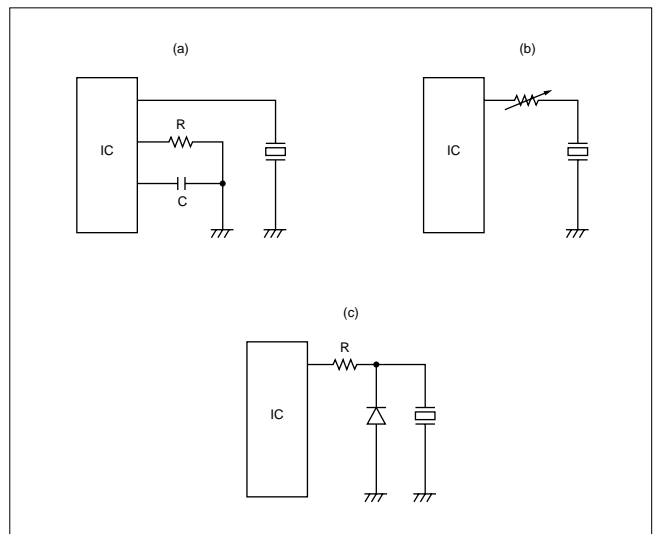

Fig. 8 Circuits for piezo ringer
- iii) If tone is distorted as discribed in Fig. 8 (a), place a resister in series to vary resistance as described in (b) and select a resistance with which the distortion can be eliminated. The recommended resistance is in a range between 1kohms to 2kohms. Alternatively, it is recommended to place a diode in parallel with the piezo ringer.